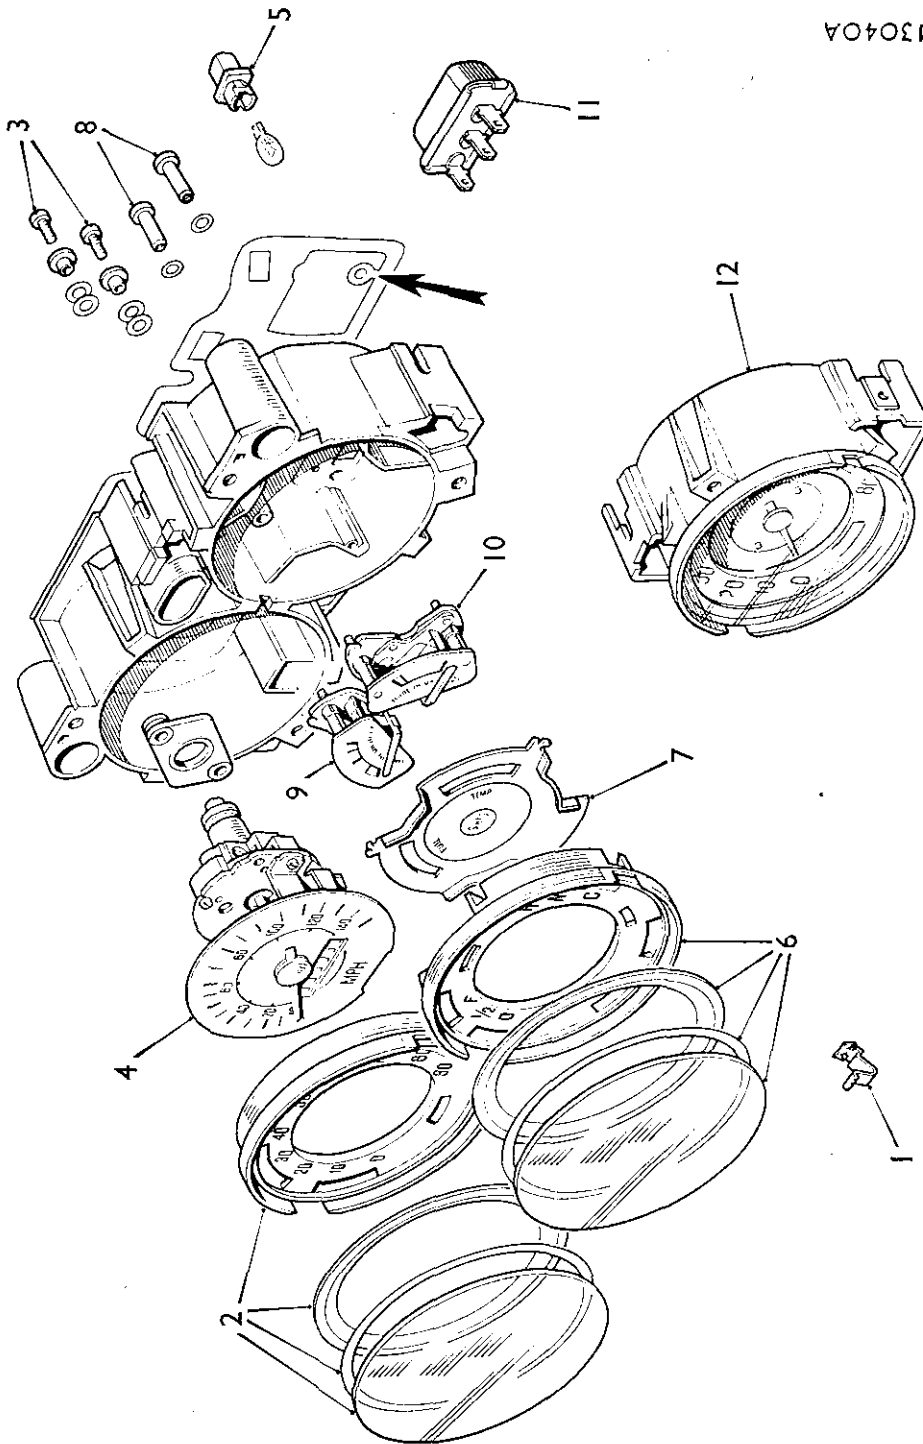

Fig. Nb.2
- (2) Remove the screws securing the complete instrument unit to the panel, and lift off the unit.
- (3) Remove the three clips (1) and withdraw the lens assembly (2) (see Fig. Nb.2).
- (4) Unscrew the retaining screws (3) and withdraw the speedometer unit (4) (see Fig. Nb.2).
- (5) Before removing the complete instrument unit as detailed in item (2), disconnect the printed circuit earth connection (arrowed) and remove the illuminating light bulb holder (5) from the tachometer (see Fig. Nb.2).
- (6) Carry out instructions (3) and (4).
- (7) Remove the clips (1), withdraw the lens assembly (6) from the instrument unit and lift out the instrument sub-dial (7). Unscrew the appropriate securing screws (8) and remove the instrument(s) (9), (10) for replacement (see Fig. Nb.2).
- (8) Disconnect the printed circuit earth connection (arrowed) and withdraw the illuminating bulb holder (5). Remove the screws securing the tachometer unit to the panel and lift out the complete assembly.
The tachometer is replaceable as a complete unit (12) (see Fig. Nb.2). Do not remove the unit from its casing.